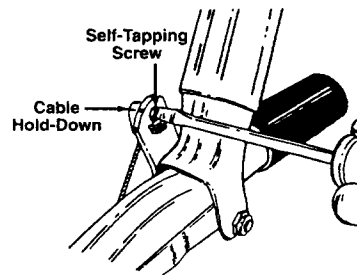

FIGURE 6
4. Pull the cable upwards to obtain slack, lift the clutch grip, and insert the cable hold-down into the clutch grip. Secure with self-tapping screw. See figure 6.